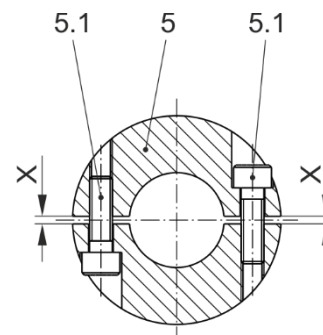

Fig. 9b
- 1) Mount the coupling hubs (5) onto both shaft ends using a suitable device and bring them into the correct position.
- 2) Tighten the clamping screws (5.1) alternately and in several tightening sequences to the tightening torque stated in Table 7. Please make sure that the gap "X" (Fig. 9b) has the same size on both hub sides. If necessary, re-adjust it.